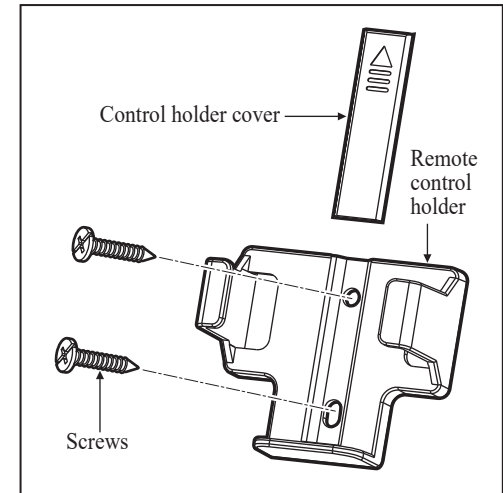

Figure 21
1. Attach the remote control holder with the two remote control holder mounting screws.(Figure 21)